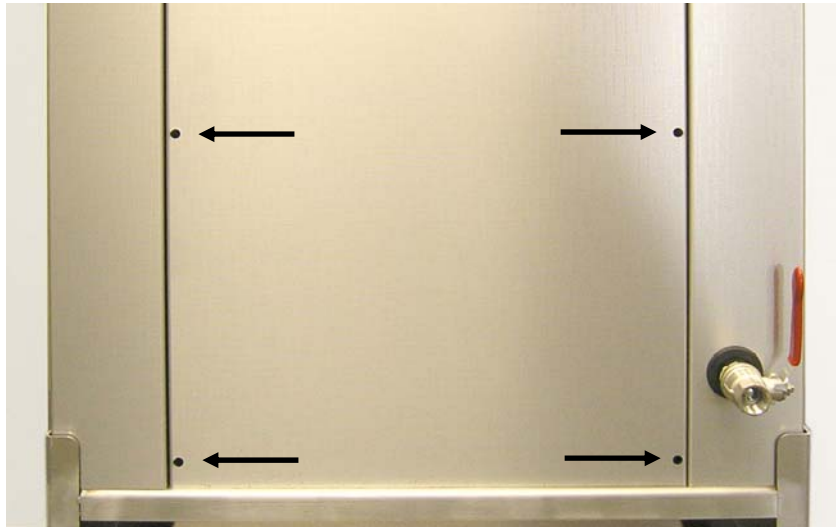

Fig. 9.5.1. Position of the 4 Allen screws
1. Undo the 4 Allen screws (see Fig. 9.5.1).